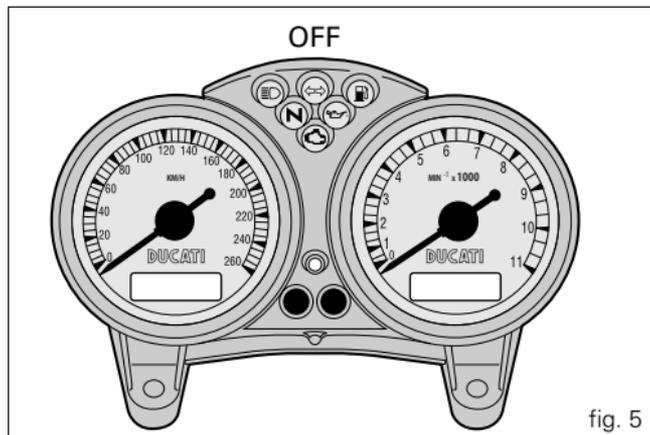
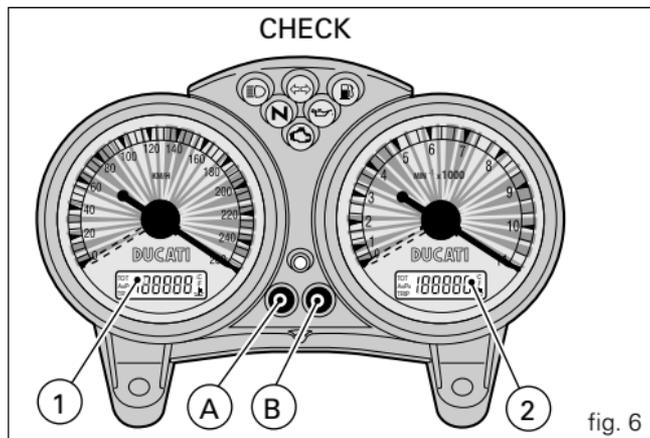

fig. 5
fig. 6
When the engine is switched on (key turned from **OFF** to **ON**), the instrument panel checks all instruments (dials, display, warning lights), see (fig. 5 and fig. 6).
By pressing button (A, fig. 6) with the key turned to ON, you can cycle between display of the trip counter and the odometer and, if the fuel level warning light is on, the fuel reserve trip counter.
If button (A, fig. 6) is held pressed for more than 2 seconds while the **TRIP** (trip meter) is active, the display is reset (LCD 1).
If button (B, fig. 6) is pressed with the ignition key at ON, the display shows the clock and the oil temperature.
Press button (B, fig. 6) for at least 2 seconds and the time will be shown on display (2, fig. 6).
Select AM/PM by pressing button (A, fig. 6). Press button (B, fig. 6) to select the hour setting function. Press (A) repeatedly to change the hour indication. Press button (B) to change to the minute setting function.
When the fuel level warning light illuminates, the word "FUEL" appears on display (2, fig. 6) and the fuel reserve trip counter function will be activated and indicate on display (1, fig. 6) the number of kilometres travelled in reserve preceded by the letter "F" (FUEL).
The "MAInt" message on display (1, fig. 6) indicates that the service interval has been reached: it will be displayed for 5 seconds each time the ignition is switched on. When the "MAInt" message is displayed, contact an authorised dealer or service centre.
Press button (B, fig. 6) within 5 seconds after the ignition key is turned to the ON position to adjust the brightness of the backlight. The brightness changes at each press of the button.